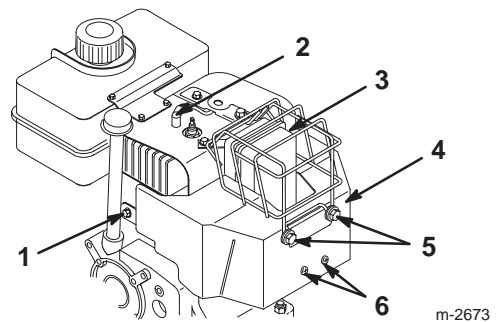

Figure 17
If you operate the engine when the air temperature is above 40°F (4°C), remove the carburetor heater box (Fig. 17).
1. Disconnect the wire from the spark plug and ensure that the wire does not contact the plug (Fig. 17).
4. Remove the fasteners that secure the carburetor heater box (Fig. 17).